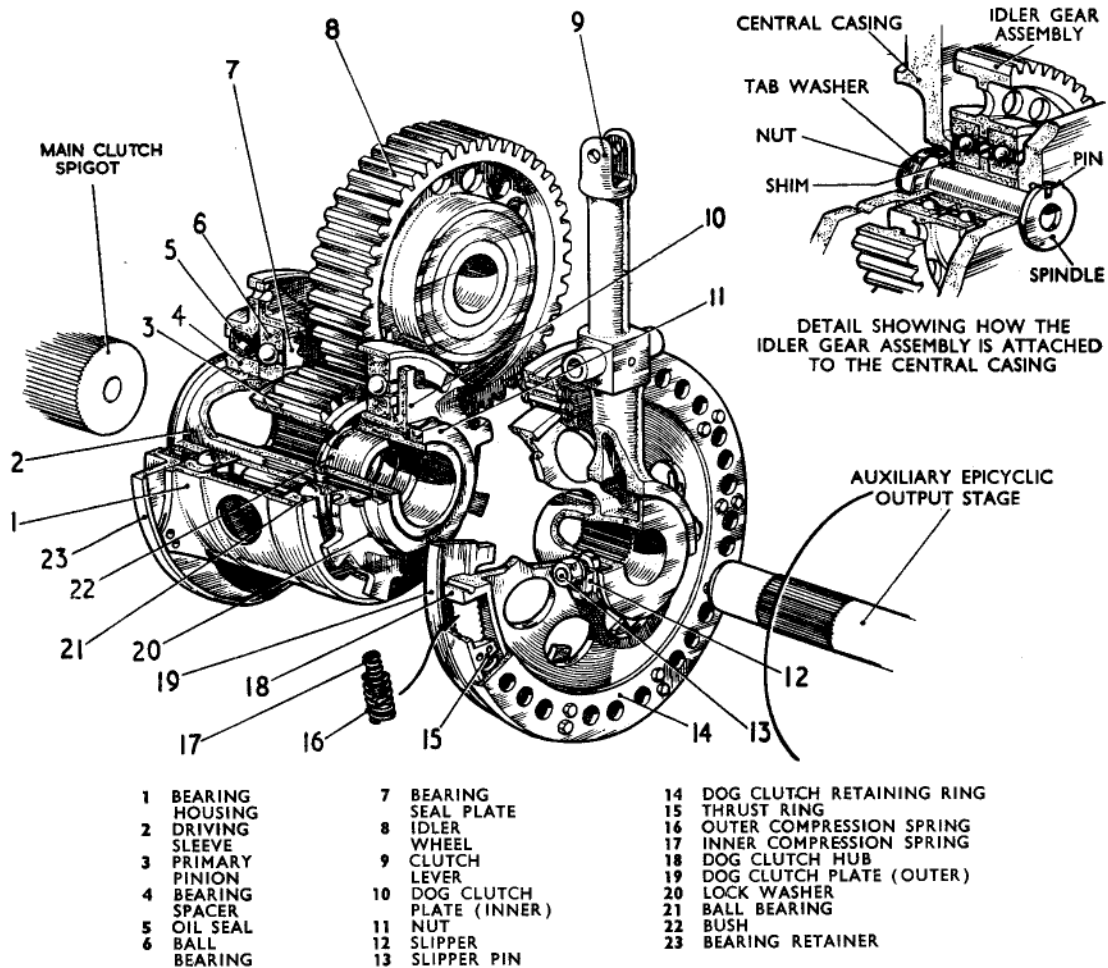

Fig. 14. Primary drive and dog clutch
Primary pinion (fig. 14)
Dog clutch (fig. 14)
- (1) Fit the grease retaining cup (47) complete with seal (48), in the bore of the primary pinion assembly (46). Fit the assembly in the central gear casing (15), securing it with the housing bolts (45), tabwashers, and nut ring (44).
- (2) Fit the idler assembly (fig. 14), meshing the gear wheel with the primary pinion.